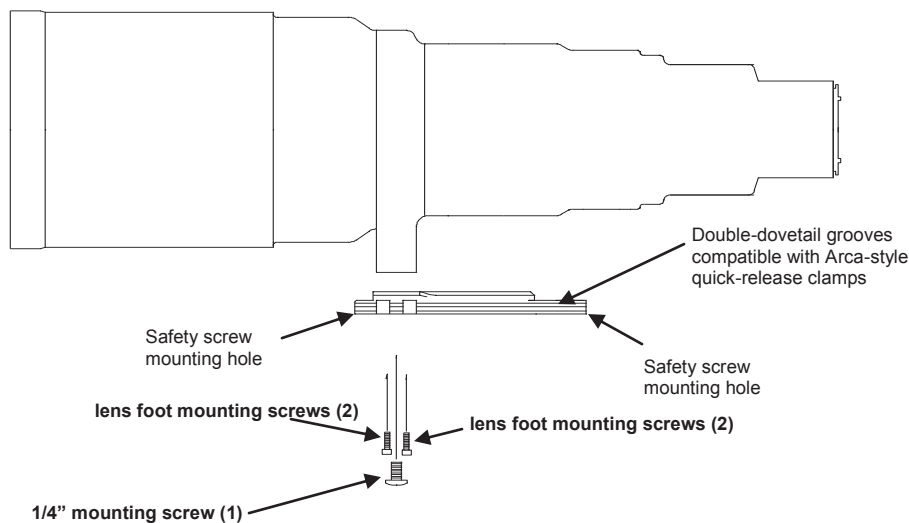

FIGURE 1
**2. Fit the AP-652 plate to the lens and secure it using all of the screws included in this kit.** See Fig. 1 below for correct positioning.